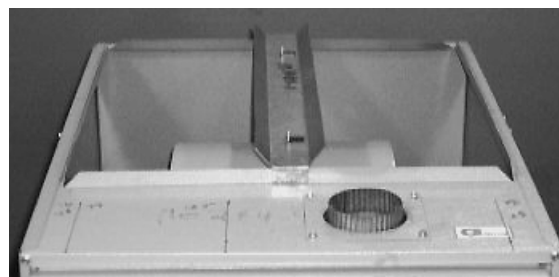

Figure 28
1. Center the filter rack over the plenum flange and push down firmly (Figure 28). Since the return air plenum will need to be attached later, do not screw the filter rack down.